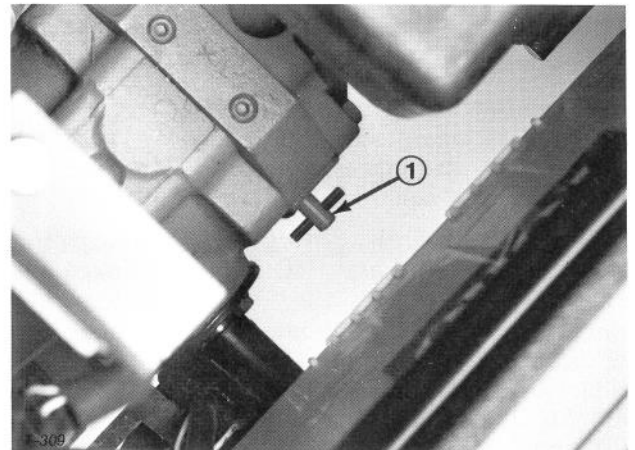

Figure 30
1. Reach under traction unit and rotate by-pass valve (Fig. 30) 1/2 to 1 turn counterclockwise. Opening the valve opens an internal passage in the transmission, thereby by-passing transmission oil. Because fluid is by-passed, traction unit can be moved without damaging the transmission.